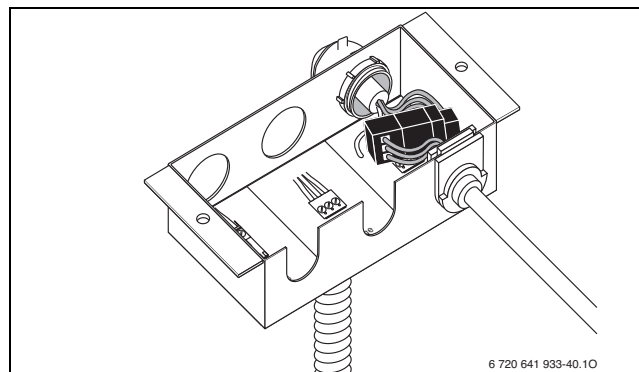

Fig. 55 Cable connected (external pump)
- ▶ Insert cable into the junction box as shown in Fig. 55.